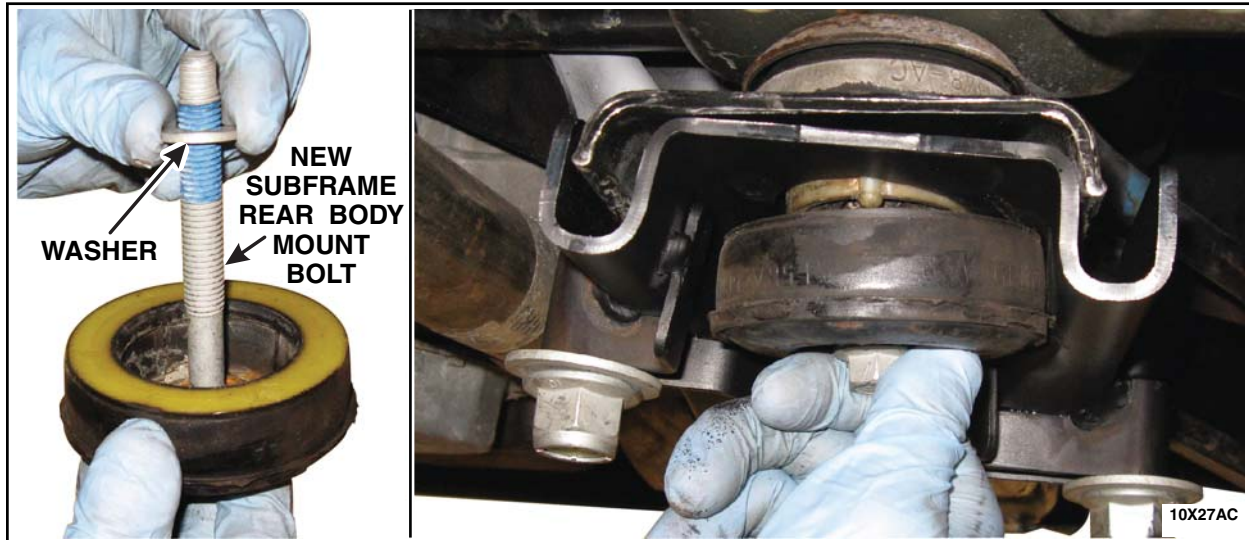

FIGURE 3
4. Install the subframe rear body mount, supplied washer and **new** rear body mount bolt. Tighten to 133 Nm (98 lb-ft). See Figure 3.